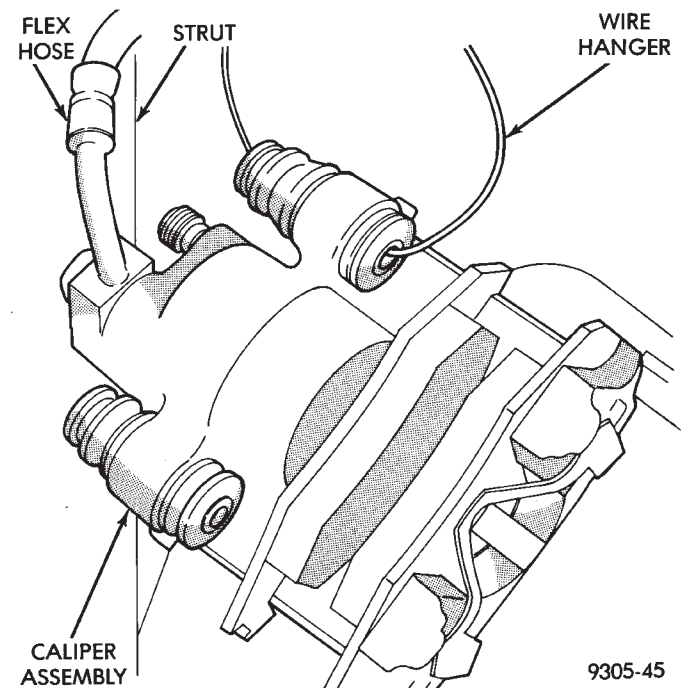
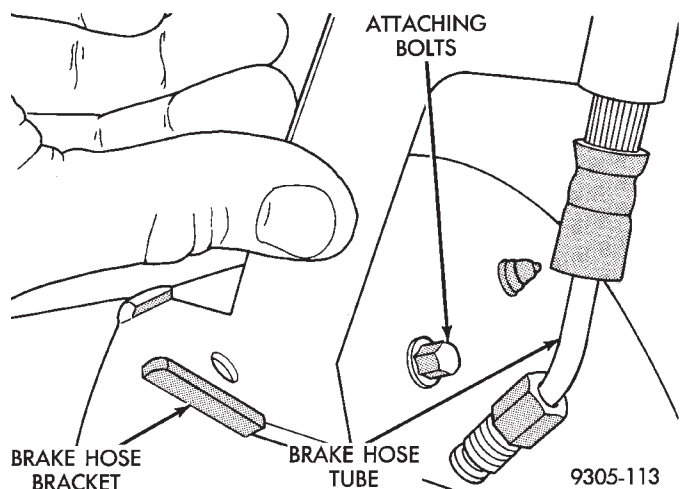
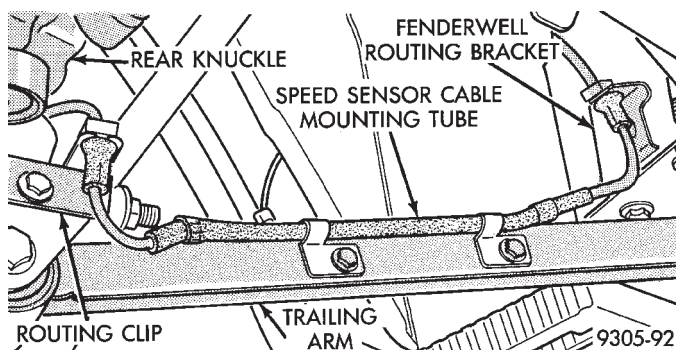

Fig. 5 Storing Rear Caliper Assembly
Fig. 6 Brake Hose Bracket And Tube
Fig. 7 Wheel Speed Sensor Cable
(1) Raise vehicle on jackstands or centered on a frame contact type hoist. See Hoisting in the Lubrication and Maintenance section of this manual, for the required lifting procedure to be used for this vehicle.
(2) Remove the rear wheel and tire assembly from the vehicle.
(3) If vehicle is equipped with rear disc brakes, remove the rear caliper assembly from the adapter. Refer to Rear Disk Brakes in Group 5 Brakes of this Service manual for required caliper removal procedure. After removing caliper assembly store caliper by hanging it from vehicle (Fig. 5). Do not let rear caliper assembly hang from flexible brake hose. If vehicle is equipped with rear drum brakes, remove the brake flex hose bracket from the support plate and wheel cylinder (Fig. 6).
(4) If vehicle is equipped with rear disc brakes, remove rear braking disc from hub.
(5) If vehicle is equipped with rear disc brakes, remove the speed sensor cable from the trailing arm (Fig. 7). **If spindle and trailing arm assembly is**
(5) Install rear speed sensor cable on rear trailing arm (Fig. 7). Then mount speed sensor cable routing clip (Fig. 7) to the trailing arm to rear spindle bracket.
(6) If vehicle is equipped with rear disc brakes, install rear braking disc on hub. Carefully install rear brake caliper over braking disc and install on adapter. Tighten rear caliper assembly to adapter mounting bolts to 22 N·m (192 in. lbs.). If required, refer to Rear Disc Brakes in Group 5 Brakes of this service manual for required rear brake caliper installation procedure.
(7) If vehicle is equipped with rear drum brakes install rear brake flex hose onto wheel cylinder and support plate (Fig. 6). First tighten the brake hose to wheel cylinder tube nut to a torque of 17 N·m (145 in. lbs.). Then tighten the brake hose bracket to brake support plate bolt to a torque of 8 N·m (75 in. lbs.).
(8) If vehicle has rear drum brakes, brake system will require bleeding. Refer to Bleeding Brake System in the Service Adjustments Section of Group 5 Brakes in this service manual.
(9) Install wheel and tire assembly on vehicle. Then torque all wheel mounting stud nuts in proper sequence until all nuts are torqued to half specification. Then repeat tightening sequence to full specified torque of 129 N·m (95 ft. lbs.).
(10) Lower vehicle to the ground.
(11) Check and reset rear wheel TOE to specifications if required.